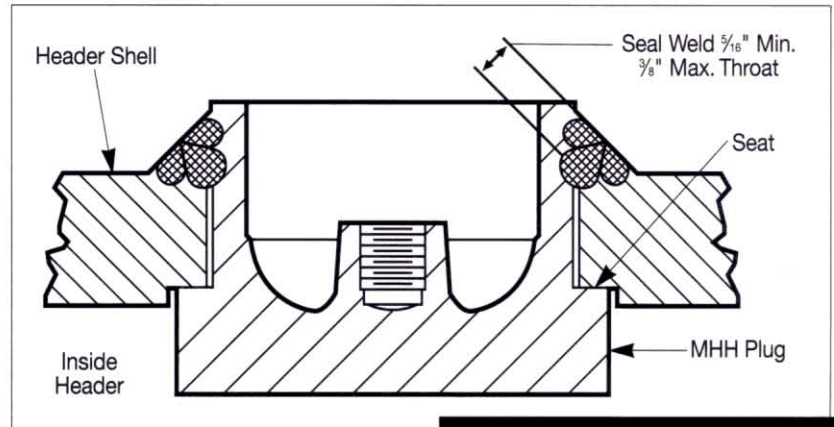

Figure 1 Master Hand Hole plug welding.
It is acceptable to re-use an old MHH plug if it can be cleaned up and weld metal can replace any removed MHH plug material, while providing the required fillet weld throat (Figure 1). If the MHH seat is damaged, it can be weld repaired and machined. **(Caution: Machining must not enlarge diameter of hole.)**
6. Seal weld with three passes (reference Figure 1), checking the root pass visually for cracks